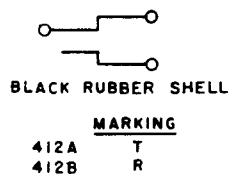

Fig. 8—412-Type Plug
**2.08 412A, B, and C:** The 412-type (Fig. 8) are test plugs designed to plug into a receptacle on the 1A1-type protector units.